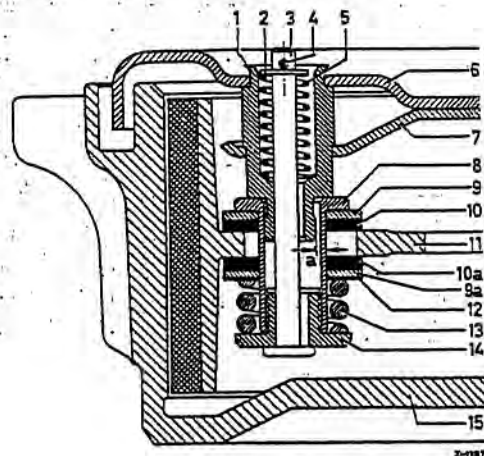

Fig. 42-9/14
**Note:** Since the cotter pin (4) is difficult to get at, the guide pin can be installed the opposite way. The guide pin is now installed from behind and the cotter pin with the washer is put on from the front (Fig. 42-9/14).
4. Unscrew the hexagon screw (1) for the brake shoe attachment from the anchor pin (9), and remove together with the lock washer, the washer (2) and brass washer (3) (Fig. 42-9/15).